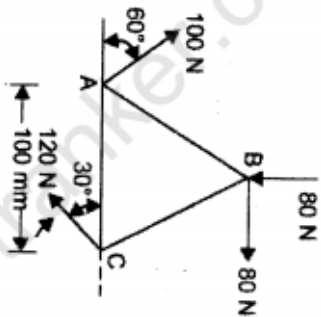

Figure 2
4. Find the magnitude, direction and position of resultant shown in Figure 2, acting on a lamina of equilateral triangular shape.